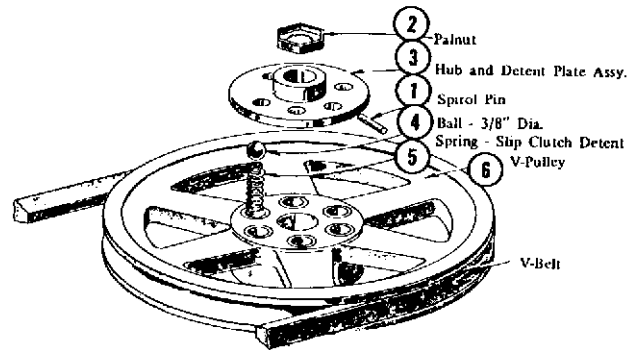

Fig. 12-3
- (4) Drive out the spirol pin (1, Fig. 12-3).
- (5) Slowly remove the palnut (2, Fig. 12-3).
- (6) Carefully lift off the detent plate (3, Fig. 12-3) and the balls (4, Fig. 12-3) and springs (5, Fig. 12-3).
- (7) Lift off the "V" pulley (6, Fig. 12-3).
- (1) Place the V-pulley (6, Fig. 12-3) on the bowl lift gear box output shaft.
- (2) Place the springs (5, Fig. 12-3) into the holes in the V-pulley. Place a ball (4, Fig. 12-3) on each spring.
- (3) Inspect the detent plate (3, Fig. 12-3), replace it if it is worn.
- (4) Carefully lower the detent plate (3, Fig. 12-3) to rest on the balls and springs.
- (5) Install the palnut (2, Fig. 12-3) and turn it until the holes in the detent plate and input shaft are aligned.
- (6) Drive in the spirol pin (1, Fig. 12-3).
- (7) (M-802) Install the drive gear.
- (8) Install the "V" belt.
- (9) Adjust the "V" belt. (Refer to: Adjustments "Bowl Lift "V" Belt").
- (10) Install the Flexa-Gear.
- (11) (M-802) Reinstall the clutch. Refer to: Section 9 "Clutch and Brake".